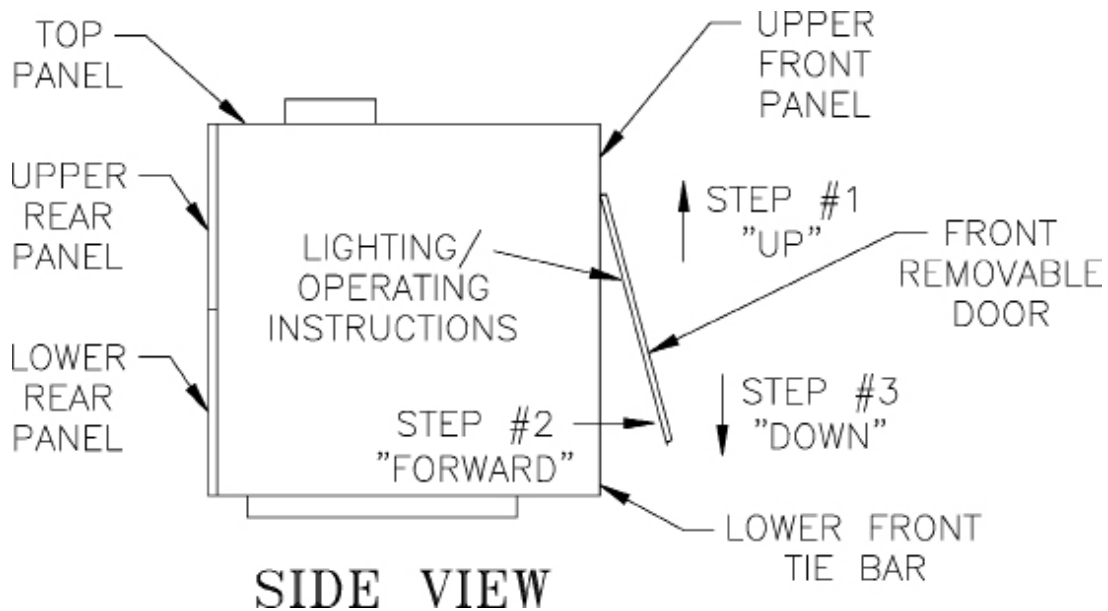

Figure 2: Jacket Front Door Removal
B. Instructions to place boiler in operation and to turn off boiler are shown on the Operating Instruction label posted on the inside of the front removable door. See Figure 2 for front door removal instructions. Operating Instructions are also shown in Figure 3.
2. Remove front removable panel. See Figure 2.